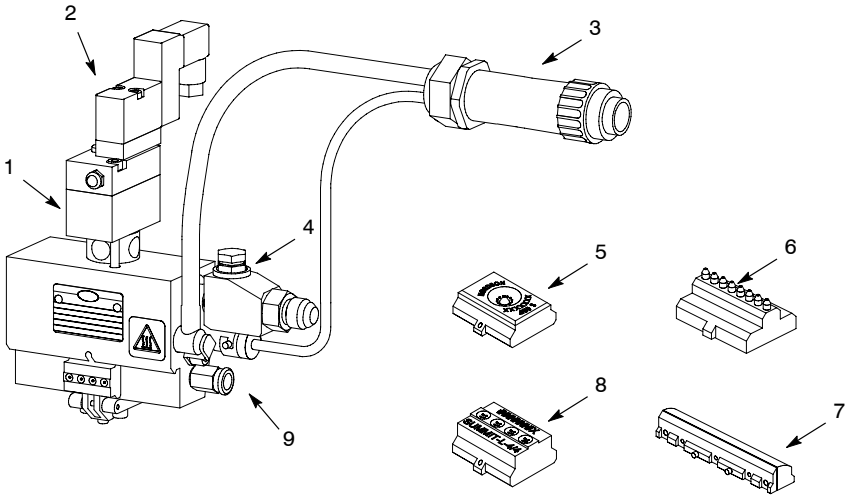

Figure 2: PatternJet (single module shown) and associated nozzles (sold separately)
The PatternJet gun accurately applies adhesives on high-speed labeling applications. Available nozzles include Universal Controlled Fiberization (CF), Universal Summit, MiniBead and slot. Figure 2 shows the key components of the PatternJet module parts family.